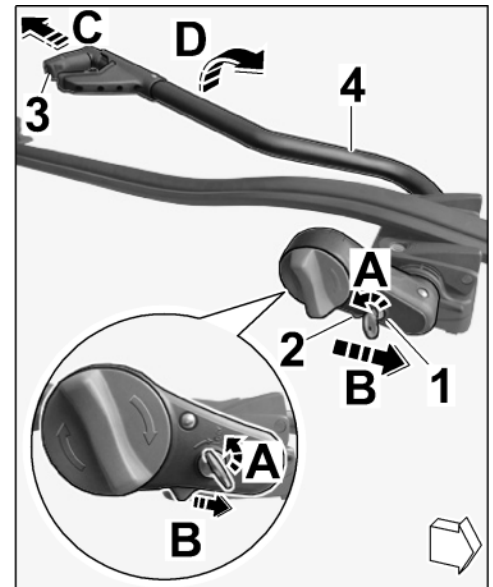

Figure 12
- 5.1.1 Open the frame holder (claw) in the pivoting support tube (⇒ *Figure 12 -C-*): Open the lock on the rotary knob (⇒ *Figure 12 -A-*) and press the button (⇒ *Figure 12 -B-*).
- 5.1.2 Swivel support tube with frame holder (claw) upwards (⇒ *Figure 12 -D-*).